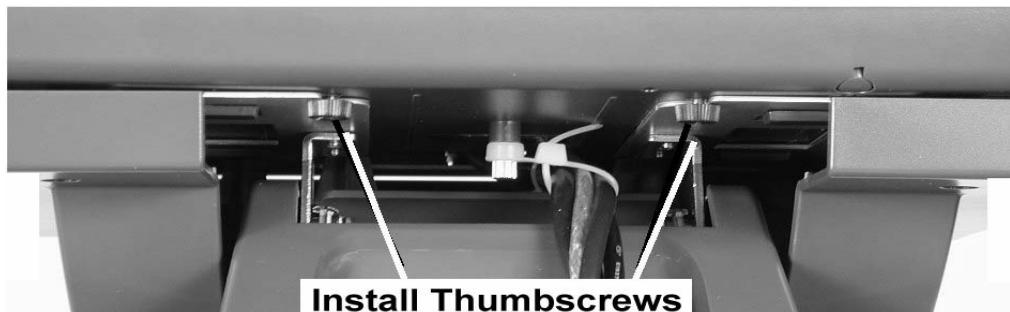

Figure 3-3: Securing the Workstation to the Stand
4. Tilt the workstation to the fully reclined position and install the pair of thumbscrews supplied with the stand to secure it to the workstation. Figure 3-3.